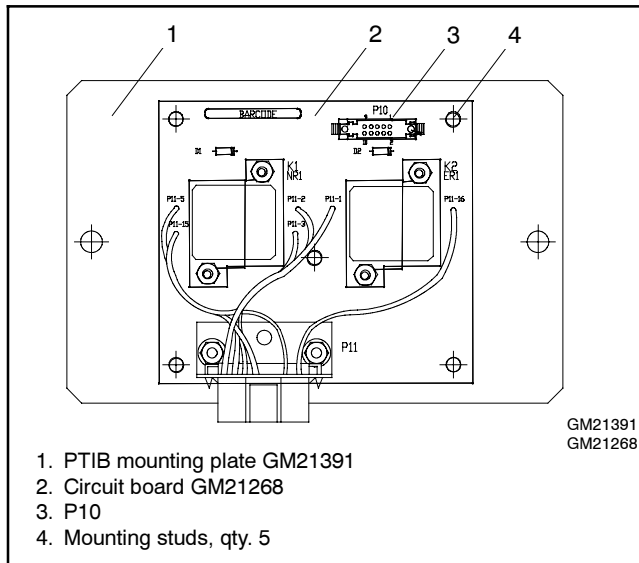

Figure 27 PTIB Circuit Board and Mounting Plate
22. Press programmed transition interface board (PTIB) circuit board GM21268 firmly onto the 5 studs on mounting plate GM21391. See Figure 27.